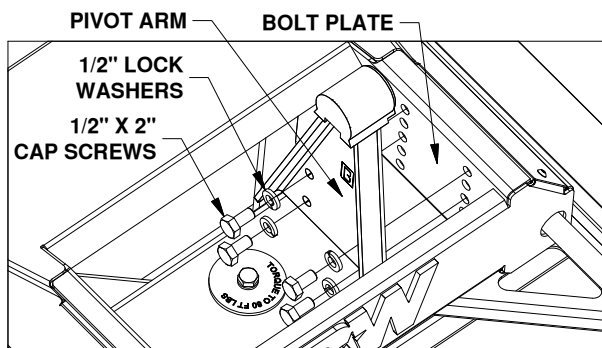

Figure C6: Looking inside the slider carriage.
4. **Secure arms.** With the flat side of the pivot arms against the bolt plate in the carriage, install four 1/2" x 2" cap screws and four 1/2" lock washers, see Figure C6. Torque each cap screw to 110 ft-lbs.